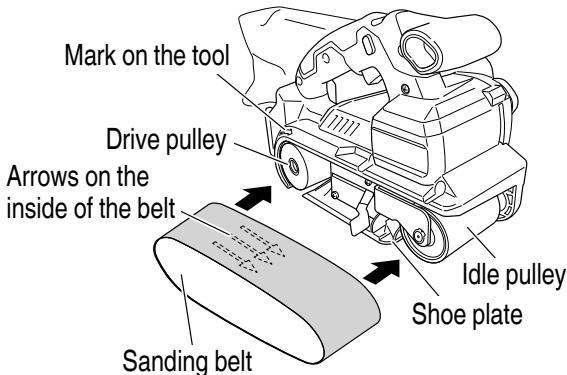

Fig. 9
(2) Place over the drive pulley and idle pulley, passing it over the outside of the shoe plate, and making sure that the arrow on the inside of the belt coincides with the corresponding mark on the tool. (Fig. 9)